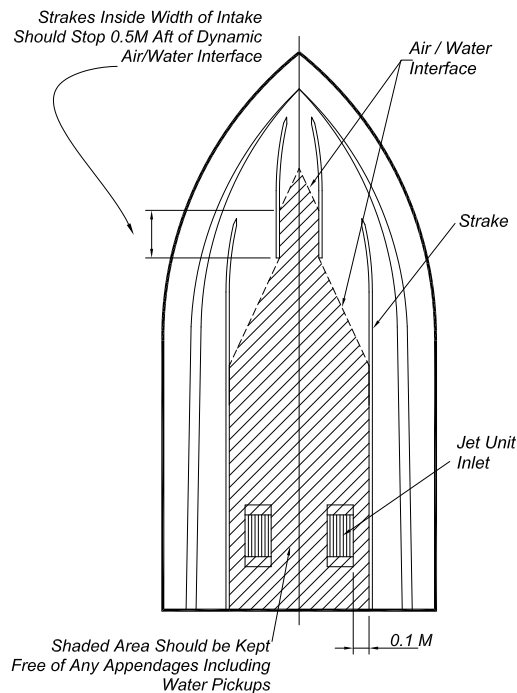

Figure 2: Mono Hull Design Recommendations
- c) Planing strakes, keelsons, "plank keels" and any other appendage that may create turbulent flow into the jet unit intake(s) must be removed from the hull bottom in front of and adjacent to the jet unit intakes. **Refer to Figure 2: Mono Hull Design Recommendations.**